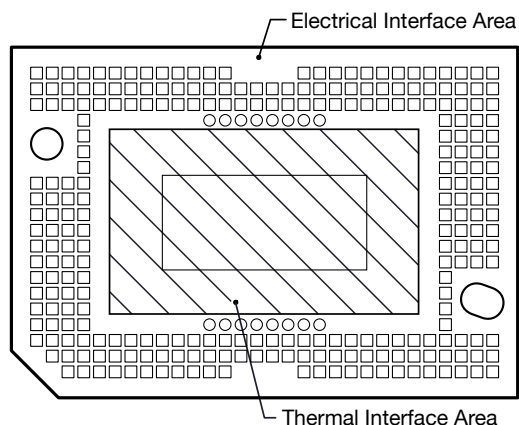

Figure 5-7. System Mounting Interface Loads
(1) Uniformly distributed within area shown in Figure 5-7